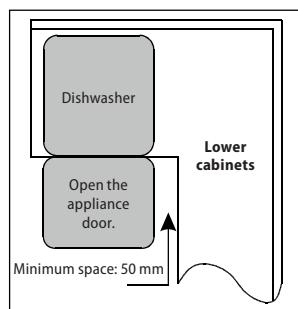

Fig. 13
- If the dishwasher is installed in a corner of the lower cabinets, make sure there is a free space around the open dishwasher door 50 mm (Fig. 13).